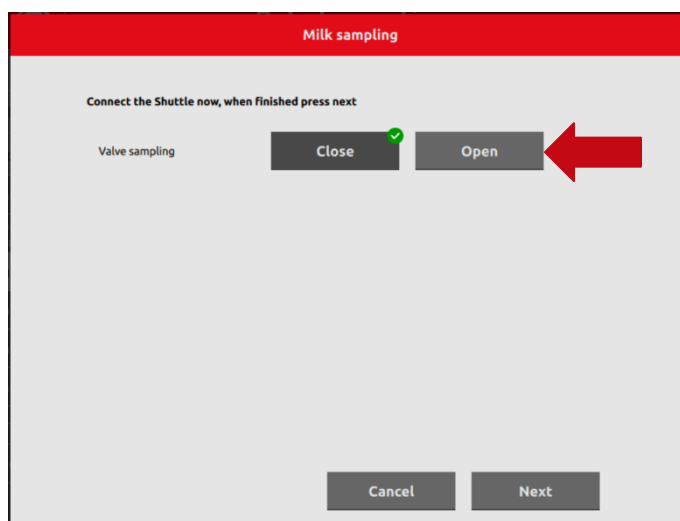

Figure 41. Milk sampling menu
4. On the Milk sampling menu, click on Open, see the figure 41